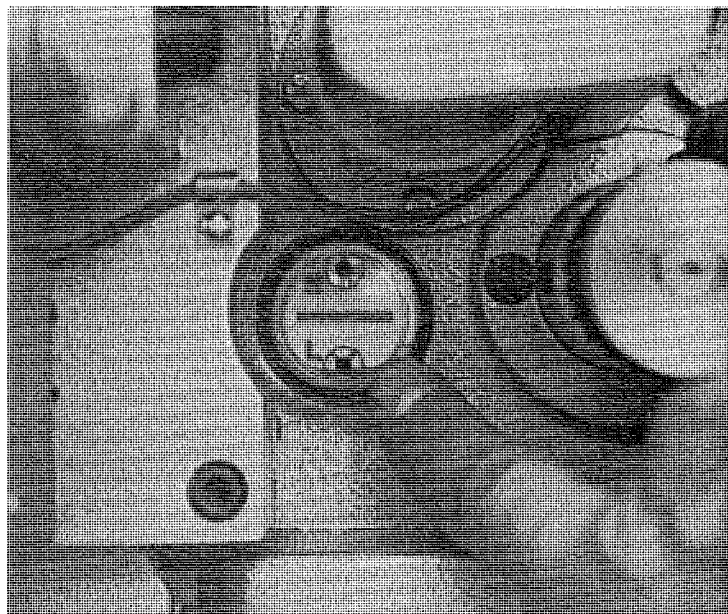
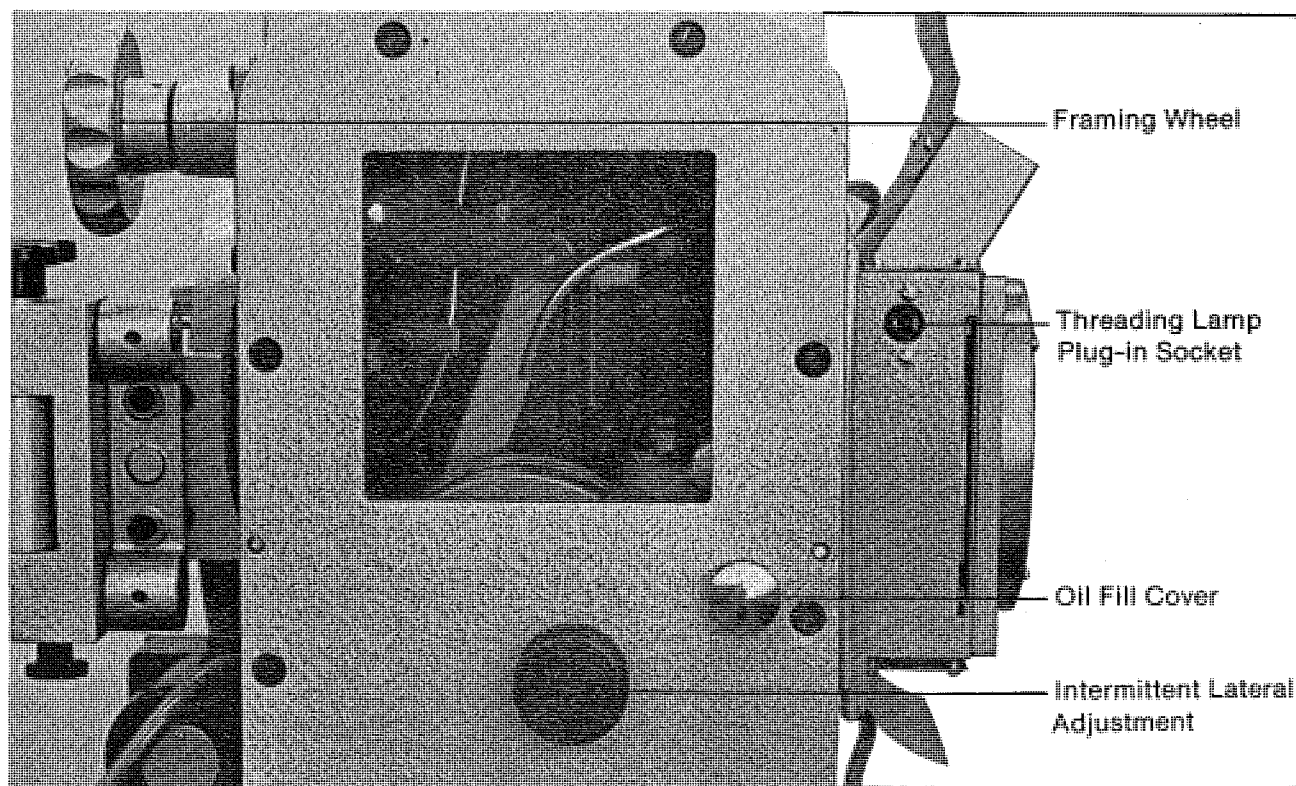

Fig. 2-1: Oil Gauge
Fig. 2-2: Back Side of Projector
- Fig. 2-1: OIL GAUGE
- Fig. 2-2: BACK SIDE OF PROJECTOR
- 2.2 Prior to operation, fill the TSR's oil reservoir with Tokiwa Projector Oil (TSR-ACC-1) or equivalent (see your dealer or contact ATP for oil specifications) so that the oil level reaches the Oil Gauge's (TSR-A-21) (Fig. 2-1) red "fill" line or slightly above. This is done by unscrewing the chrome-plated Oil Fill Cover (TSR-A-5) located on the back cover, (Fig. 2-2), and carefully pouring oil into the fill hole using any standard oil squirt can with a suitable nozzle. The oil capacity of the TSR's reservoir is approximately 325 cc. fluid ounces. When the reservoir is filled to the proper gauge level, replace the Oil Fill Cover and tighten it securely.
- 2.3 When the projector is operating, it is normal for the oil level to drop in the Oil Gauge as the oil is pumped from the reservoir and circulated throughout the mechanism. Proper oil circulation can be monitored by viewing the steady oil flow visible through the Oil Sight Window (refer to Fig. 2-1) on the rear cover.